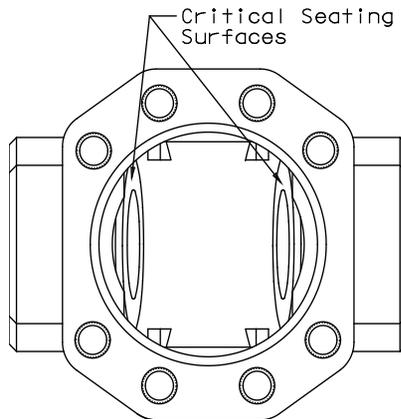

Figure 3
- Examine the flat seating surfaces within the body cavity. See Figure 3. If these surfaces are pitted or scratched the body must be replaced. A scratch is anything you can feel with your fingernail. Machining marks may be present and will not interfere with sealing. Scratches that can be seen but not felt may be polished out using #120 grit emery cloth or finer.